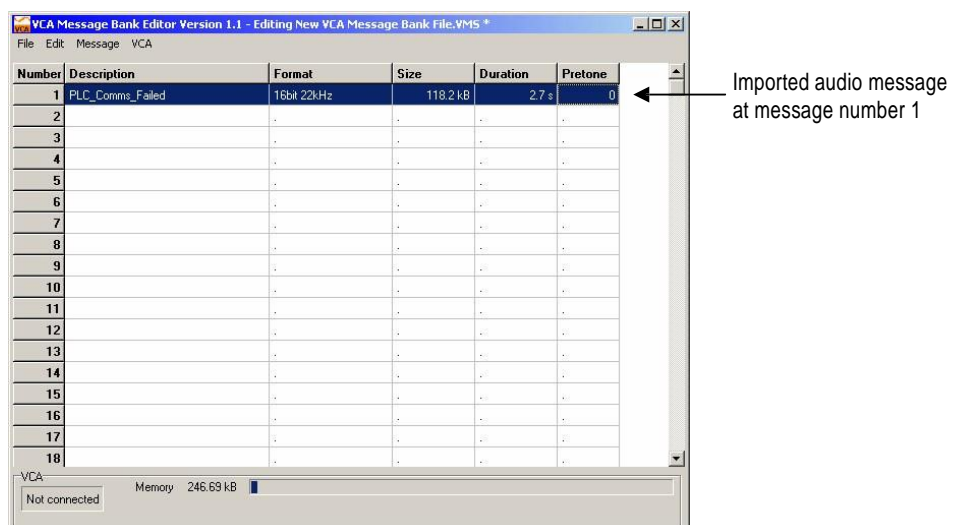

Figure 39 - Importing an audio file
4. Once imported, the voice message will appear in the message bank at the chosen message number as shown in Figure 39. There are three message attributes that can be edited: Description, Format and Pretone number. These will be explained in the next section. It may be easier to import all of the required messages first and then change the message settings.
5. As with any program you are working with, **save frequently!** It is recommended that the Message Bank is saved as soon as it is created. Open the File menu and select Save As. Give the file a meaningful name and note where the file is saved. Message Bank files have the file extension “.vms”. The file name is displayed in the main window’s title bar, above the menus. If any changes have been made that have not been saved, the file name will have an “*” following it as shown in Figure 39.